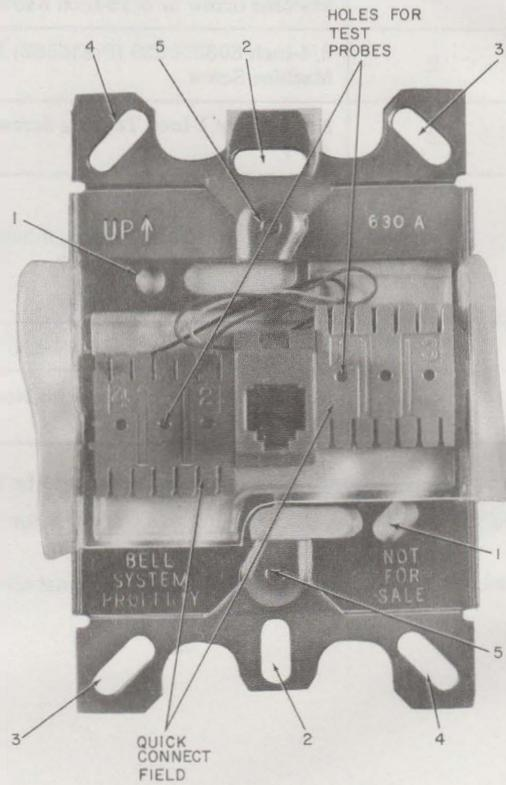

Fig. 8—630A4 Connecting Block Mounting Arrangement
2.09 The **630A4** connecting block (Fig. 9) is a plug-in wall set mounting and will also accept a modular type mounting cord. It consists of a connecting block (Fig. 8) and 1034A mounting plate (Fig. 9). Two 3/16-inch 800413577 (P-41357) cover mounting screws, two 5/16-inch 840705008 and two 3/4-inch 803355825 (P-335582) flathead machine screws are included in a fastener package. The 630A4 connecting block is now available as a replacement for the 630A6 and should be ordered accordingly. The 630A4 connecting block is now being manufactured using a different mounting bracket as shown in Fig. 6, 7, and 8.
(a) A fastener package is provided with the 630A4 connecting block consisting of two 3/16-inch 800413577 (P-41357) cover mounting screws, two 5/16-inch 840705008 and two 3/4-inch 803355825 (P-335582) flathead machine screws. Depending on mounting arrangement, select proper fasteners from Table B and mount connecting block using holes designated in Fig. 8. The connecting block should be straight before tightening screws. When installing on an underflush outlet box or plaster ring, the connecting block bracket should be tightened just enough so that the assembly is tight on the wall once mounting plate is attached and tightened down. Further tightening will distort the bracket excessively.
terminations per lead. One termination is required for the jack conductor. An access for a test point is also provided (Fig. 8).